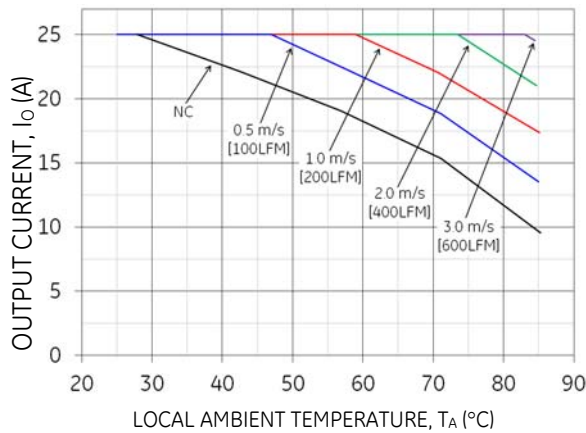

Figure 19. Output Current Derating for the Open Frame QBVW025A0B in the Transverse Orientation; Airflow Direction from Vin(-) to Vin(+); Vin = 48V.
Increased airflow over the module enhances the heat transfer via convection. The thermal derating of figure 19- 23 shows the maximum output current that can be delivered by each module in the indicated orientation without exceeding the maximum TH_x temperature versus local ambient temperature (T_A) for air flows of, Natural Convection, 1 m/s (200 ft./min), 2 m/s (400 ft./min).
The use of Figure 19 is shown in the following example:
Determine required airflow (V) (Use Figure 19):